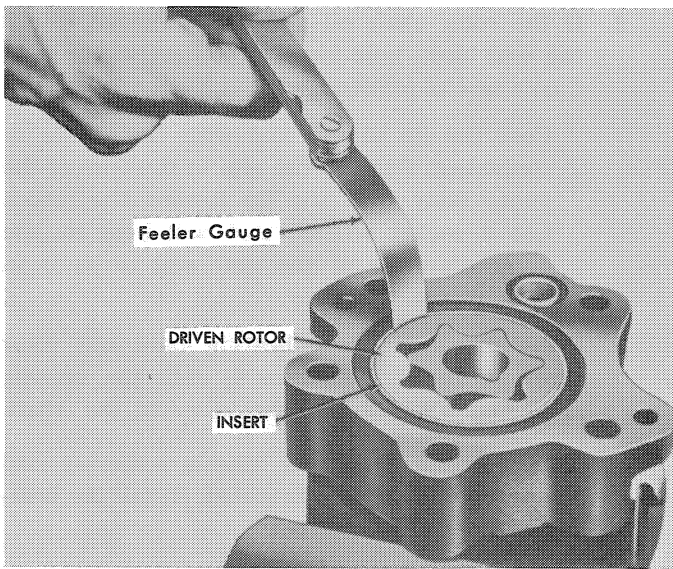

Figure 13—Checking Rotor to Insert Clearance
- d. Check the clearance between the driven rotor and the insert in the pump body as shown in Figure 13. If the clearance exceeds 0.008 inch, replace the pump body and the rotor assembly. If all the clearances are within specifications, remove the rotors and bearing from the pump body.